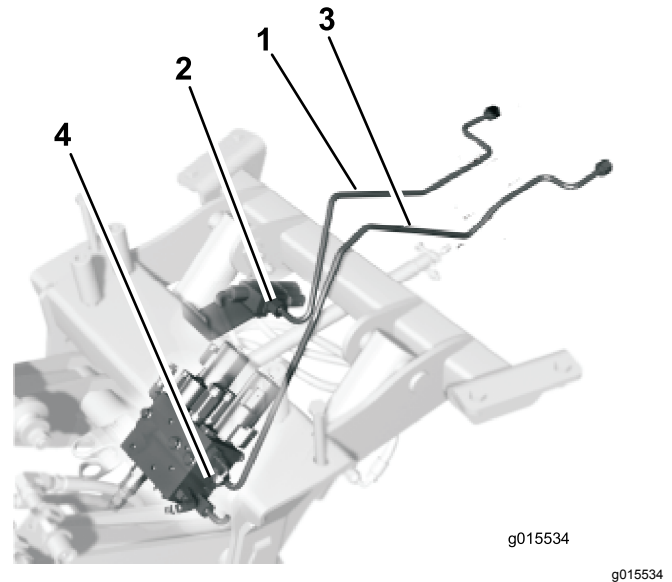

Figure 4
1. Loosely install the shorter hydraulic tube to the straight fitting on the valve (Figure 4).
2. Loosely install the longer hydraulic tube to the straight fitting on the manifold (Figure 4).
2. Guide the shorter hydraulic tube assembly (**Figure 4**) around and above the traction control rod.